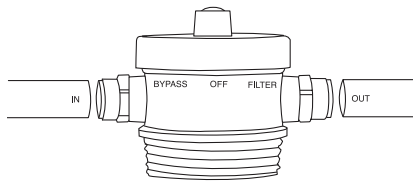

Figure 4
- Referring to “Using Push-In Fittings” section, insert pipe into filter head fitting making sure end of pipe is firmly seated to backstop. Connect pipe from water supply to “IN” port (see Figure 4).